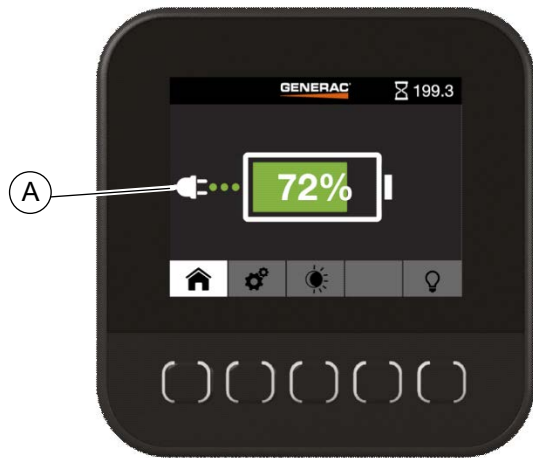

Figure 3-9. Charging Unit
3. See Figure 3-9. If the charging current is more than the discharging current, the display shows the battery getting charged (A).